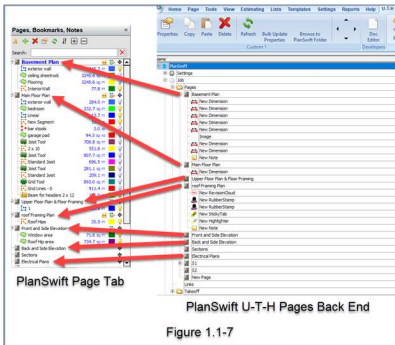

Figure 7
10. The **Pages** tab works similarly (see figure 7). If a page is added on the back end, then it will reflect in the screens.